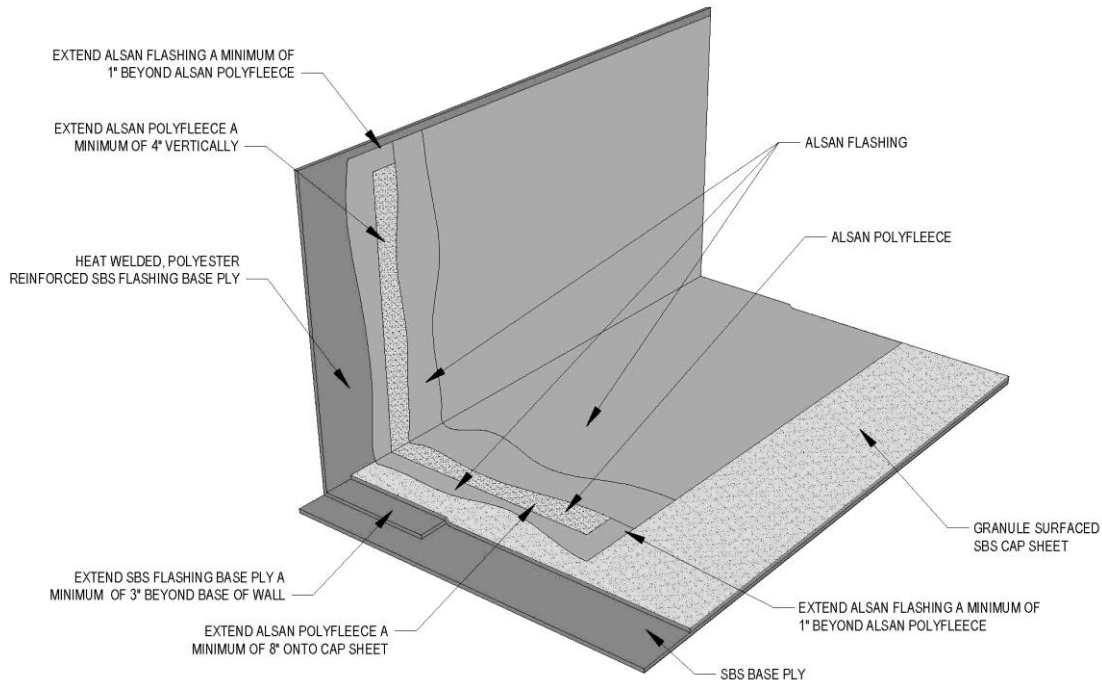

Figure 4.2a ALSAN® FLASHING Wall/Curb Flashing with SBS Flashing Base Ply on Granular Surfaced Cap Sheet Without Cant
- SOPREMA® ALSAN® FLASHING liquid-applied, reinforced flashing is recommended for SBS modified bitumen membranes to seal roof transitions, terminations and penetrations. Refer to Figures 4.2a through 4.2n.
- Ensure POLYFLEECE extends a minimum of 4 in vertically and 8 in horizontally at roof terminations, transitions and penetrations. Refer to Figures 4.2a through 4.2n.